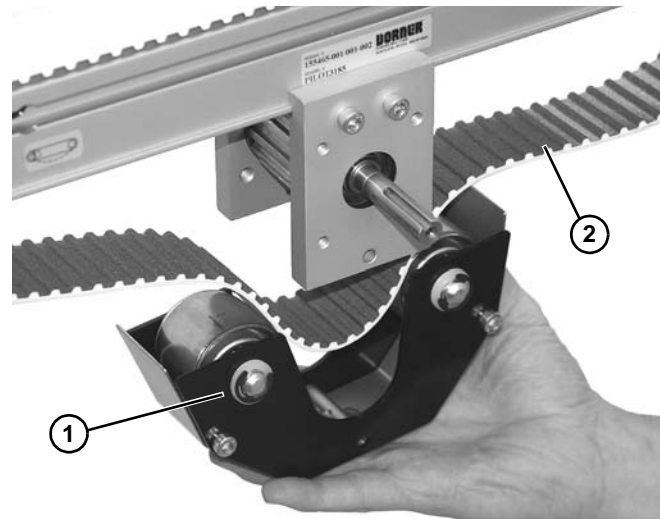

Figure 53
3. Lower and remove mid drive assembly (Figure 53, item 1) from belt (Figure 53, item 2).